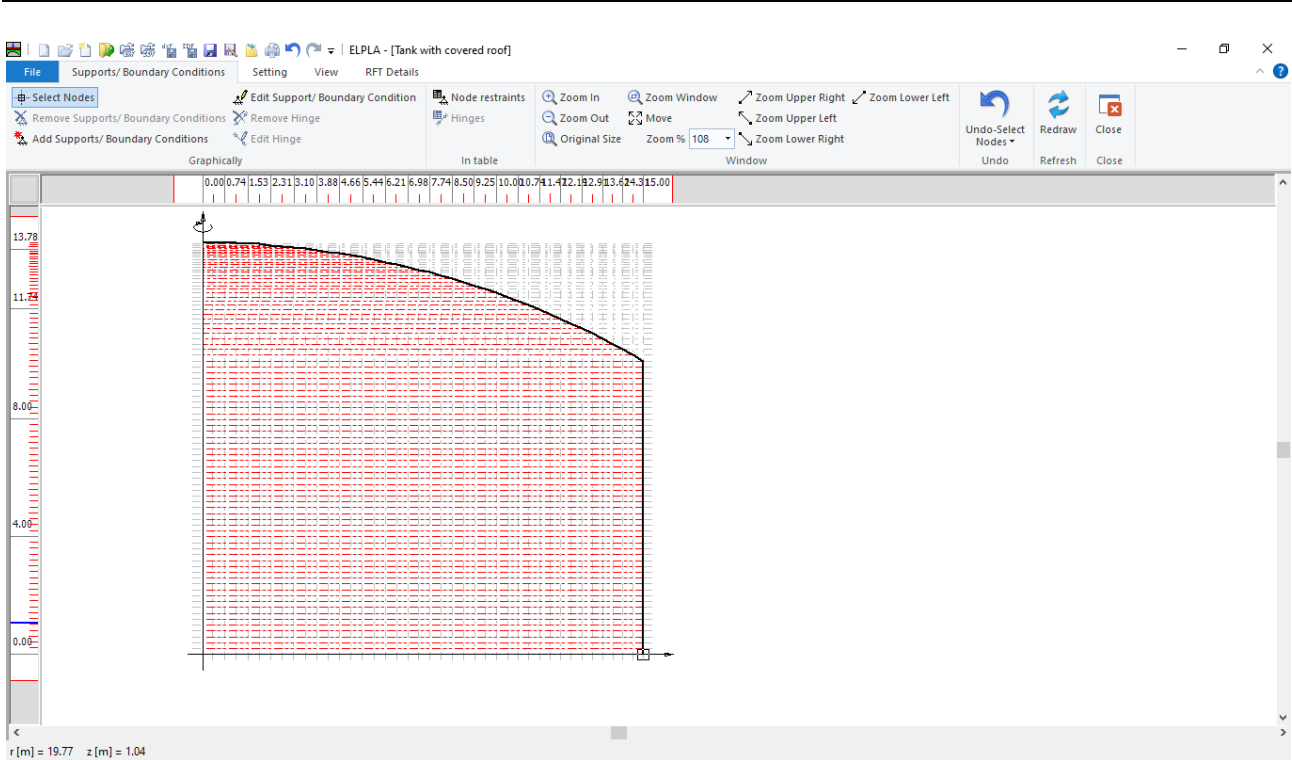

Figure 5.18 Selection of the node that has the fixed support
- Click the left mouse button on the node that has the fixed support as shown in Figure 5.18